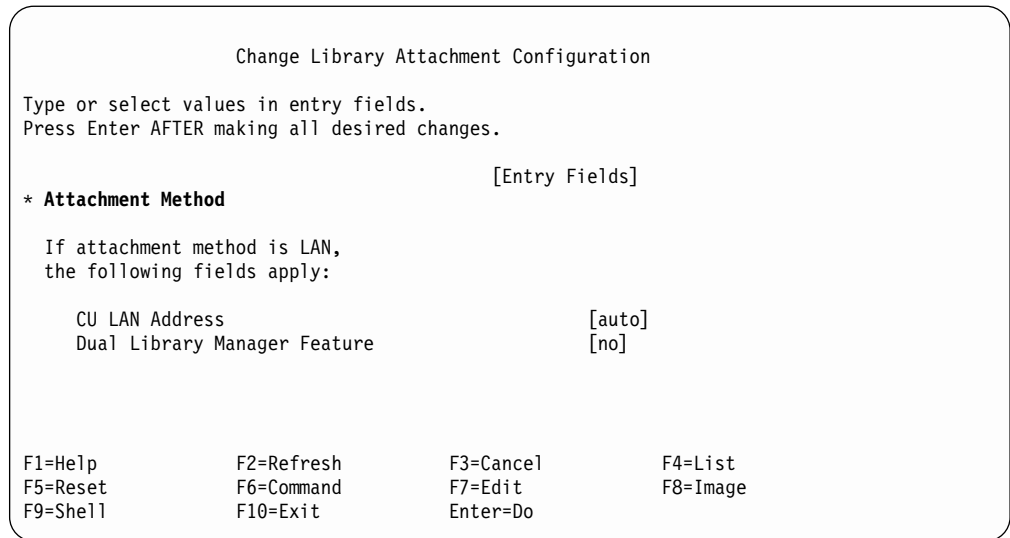

Figure 161. Change Library Attachment Configuration Screen
4. Select **Change Library Attachment Configuration**. Press **ENTER**. Figure 161 on page 413 displays.